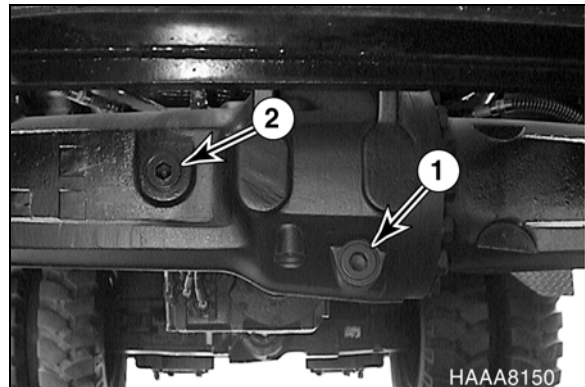

Figure 85
1. The oil drain (1, Figure 85) and fill (2) holes are located in the front section of the axle case.
2. Clean off any dirt, grease and other foreign materials from area surrounding the drain (1, Figure 85) and fill (2) holes of the axle case.
5. Remove the fill plug (2, Figure 85) and fill to the bottom of the fill hole with approved gear oil.